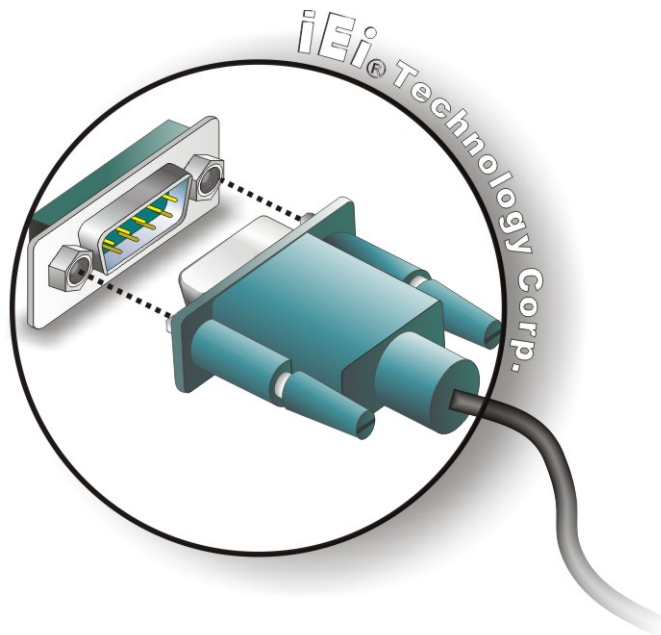

Figure 4-15: Serial Device Connector
Step 2: **Insert the serial connector.** Insert the DB-9 connector of a serial device into the DB-9 connector on the external peripheral interface. See **Figure 4-15**.